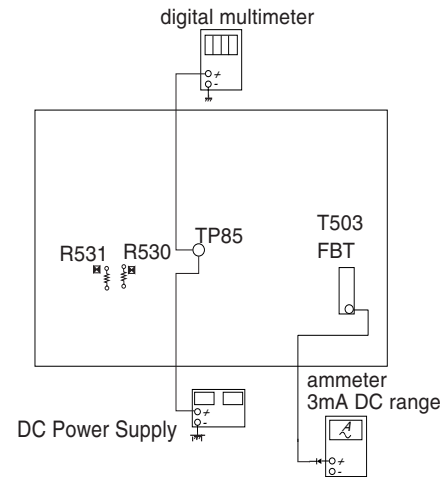

Figure 1
- Connect the current meter between Pin 11 of the FBT (T503) and the PWB land where Pin 11 would normally attach. (See Figure 1).
- Connect the digital voltmeter and the DC power supply to TP85 and ground. (See Figure 1 above).